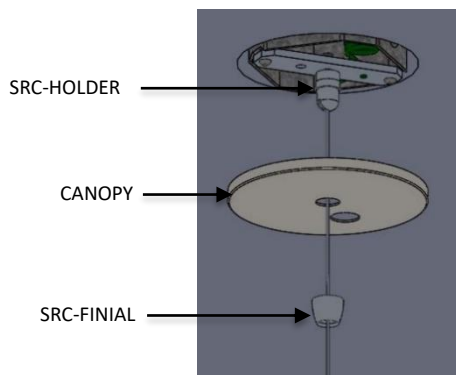

FIG. 21 – CANOPY DIS-ASSEMBLY
21. Once the TWIN BODY is secured to the AIRCRAFT CABLE (8) at the GRIPLOCK (8) Unthread the FINIAL from the MOUNTING BRACKET ASSEMBLY and lower the CANOPY as shown below in FIG. 21.